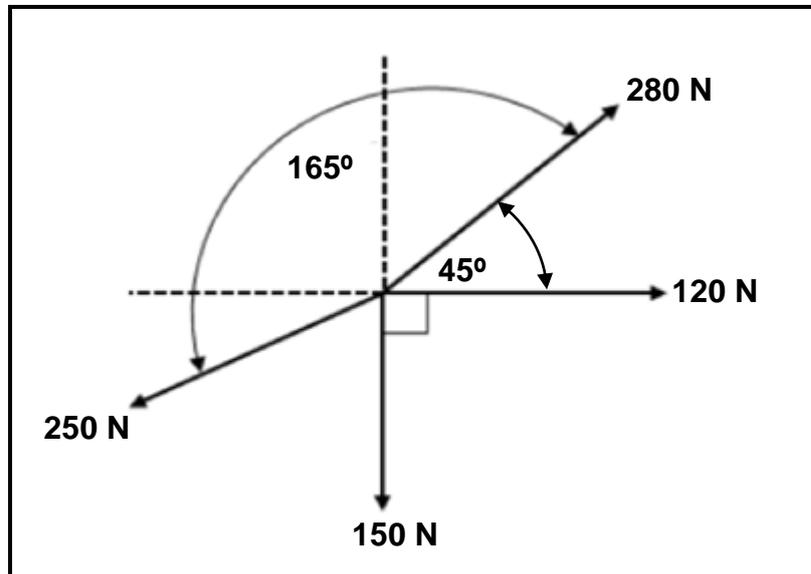

FIGURE 8.1
8.1 FIGURE 8.1 shows a system of forces with four forces acting on the same point.